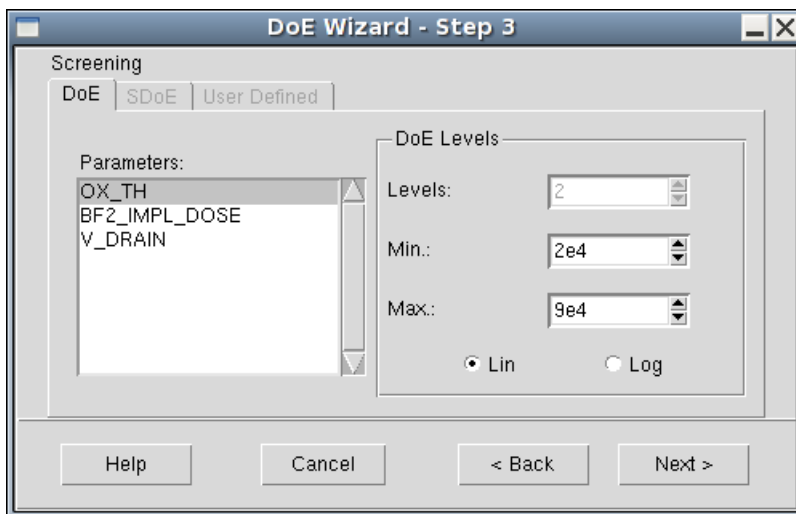

Figure 45 DoE Wizard - Step 3 for screening
For a screening process, in Step 3, you must specify the levels for each parameter and the scale in which they are measured (see Figure 45).
Step 3 for a response surface model (RSM) is the same as for screening (see Figure 45 on page 109). Nevertheless, you must be aware that, for the **Response Surface Model** option, the objective is to fit a second-order model. This implies that the DoE Wizard adds at least one more level to each parameter automatically.